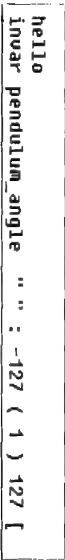

Figure 5-6 Wrong Syntax
1. Add the line "hello" just above the line saying "invar pend\_angle..." as shown in Figure 5-6.